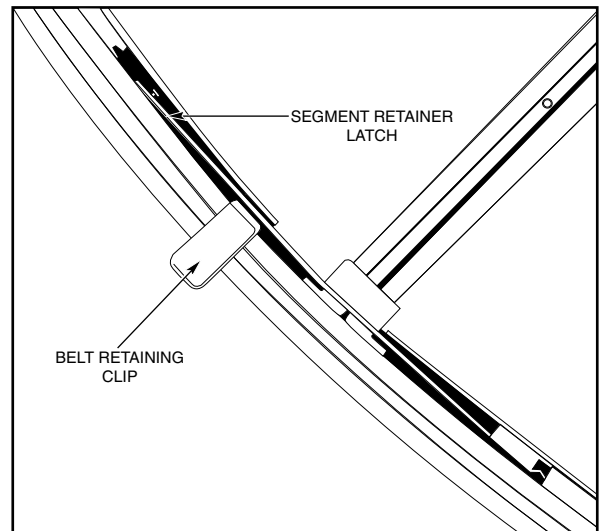

Fig. 192 — Detail of Belt Retaining Clip and Segment Retained Latch
7. At pulley location, insert the right angle belt retaining clip near spoke and between segment retainer latch and wheel rim as shown in Fig. 192.